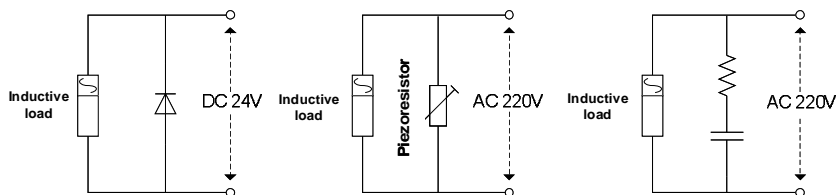

Fig.3-5 Application of inductive load surge suppressor
- u When the inverter is connected to the inductive load equipment (e.g. electromagnetic contactor, relay and solenoid valve), surge suppressor must be installed on the load equipment coil, as shown in Fig.3-5.